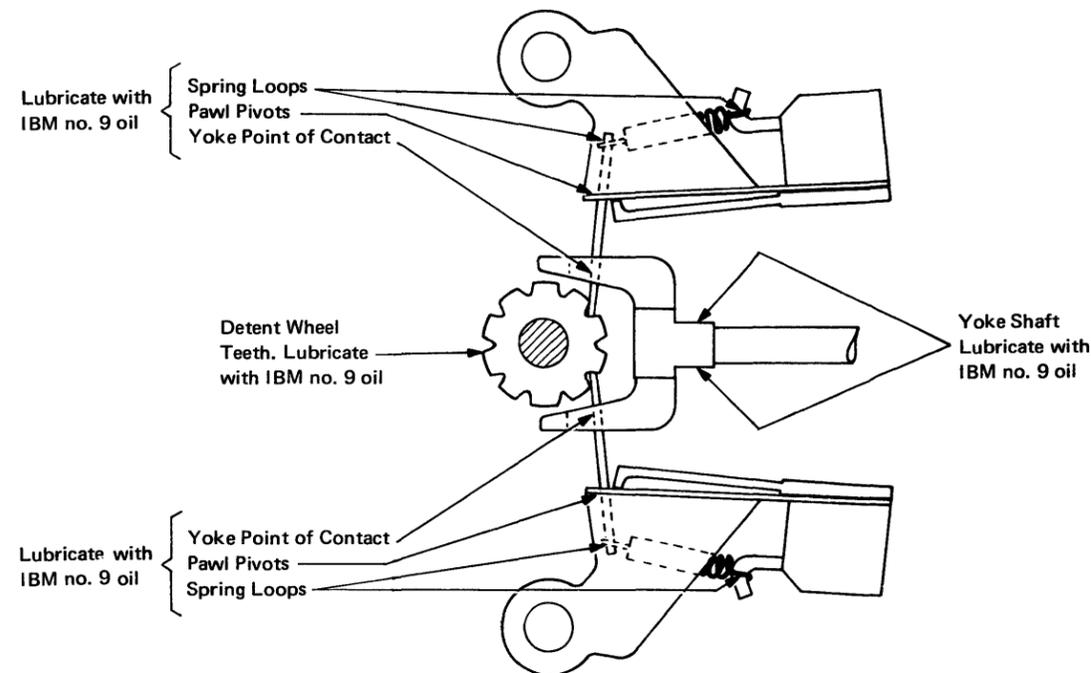

Figure 2-10. Detent Assembly Lubrication [07534]
2. Lubricate the points shown in Figure 2-10 with IBM no. 9 oil. Use a small screwdriver to drip small amounts of oil on to the locations.